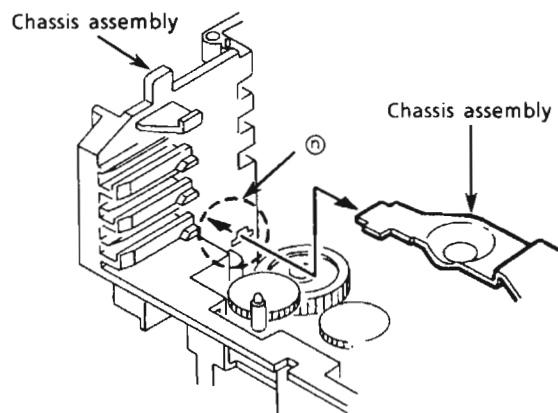

Fig. 45
3. Remove the gear bracket from the chassis ass'y's ⑥ securing top of the gear bracket. (See Fig. 45.)